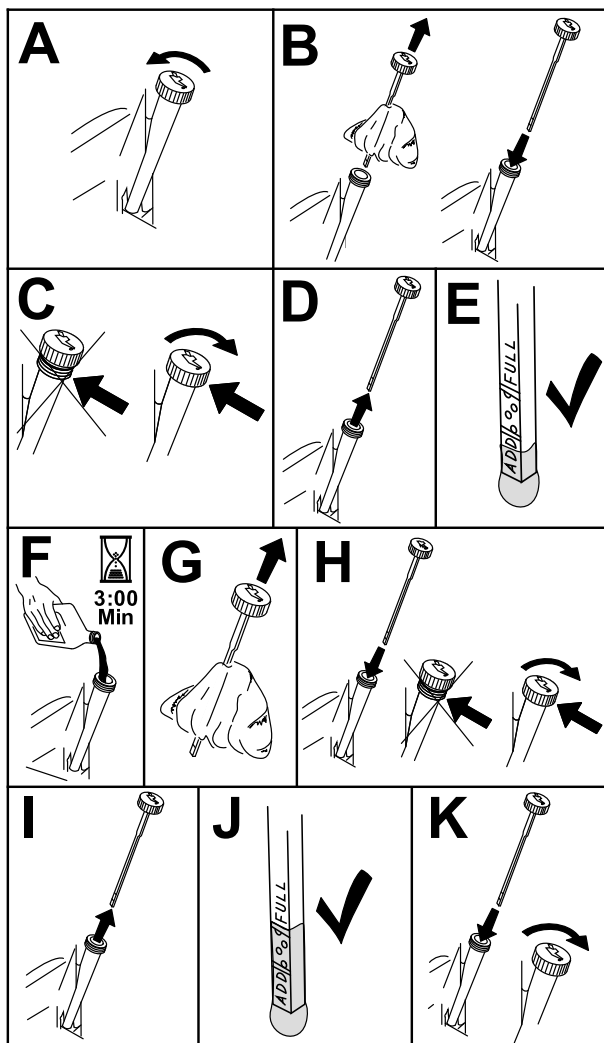

Figure 43
3. To keep dirt, grass clippings, etc., out of the engine, clean the area around the oil-fill cap and dipstick before removing it (Figure 43).